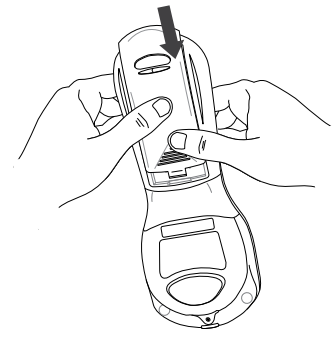

Figure 4
7. Align the battery compartment cover with the slots on the Precision Xceed Pro Monitor, then slide the cover into place. (Fig. 4)